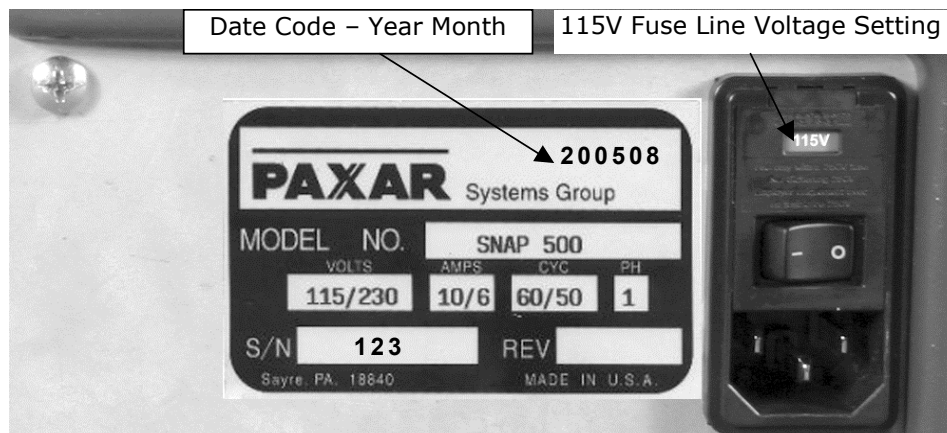

Figure 5. Right Side of Printer – Rear View
The main fuse(s) on the AVERY DENNISON SNAP 500 printer are located inside the AC power entry receptacle on the backside of the printer (see Figure 5). The AC power entry has a fuse drawer that holds the fuse(s) and selects the appropriate line voltage.
1. Locate the AC power entry receptacle on the backside of the printer just below the power switch (see Figure 5).